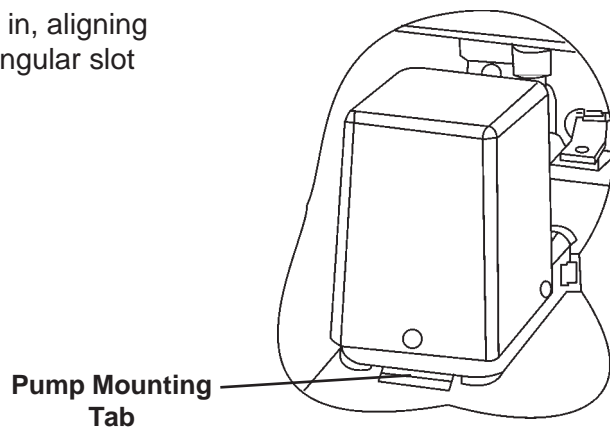

Fig. 2
7. Install the drain pump. Carefully slide in, aligning the tab on the pump base to the rectangular slot in the unit base. (Fig. 2)